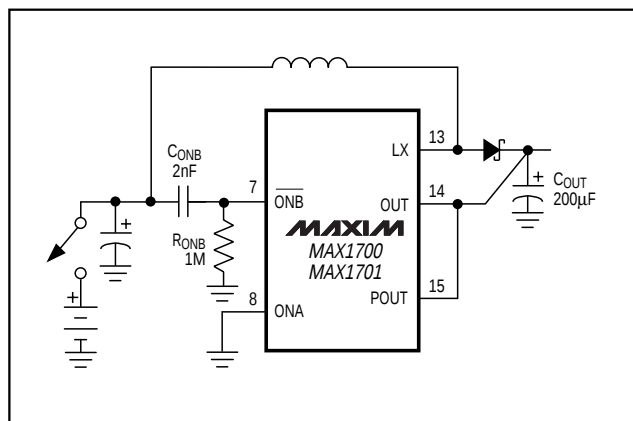

Figure 12. Connecting C_{ONB} and R_{ONB} when Switch or Battery-Contact Bounce Is Anticipated
1) Connect a capacitor (C_{ONB}) from $\overline{ONB}$ to V_{IN} , a $1M\Omega$ resistor (R_{ONB}) from $\overline{ONB}$ to GND, and tie ON_A to GND (Figure 12). This RC network differentiates fast input edges at V_{IN} and momentarily holds the IC off until V_{IN} settles. The appropriate value of C_{ONB} is 10^{-5} times the total output filter capacitance (C_{OUT}), so a C_{OUT} of $200\mu F$ results in $C_{ONB} = 2nF$.